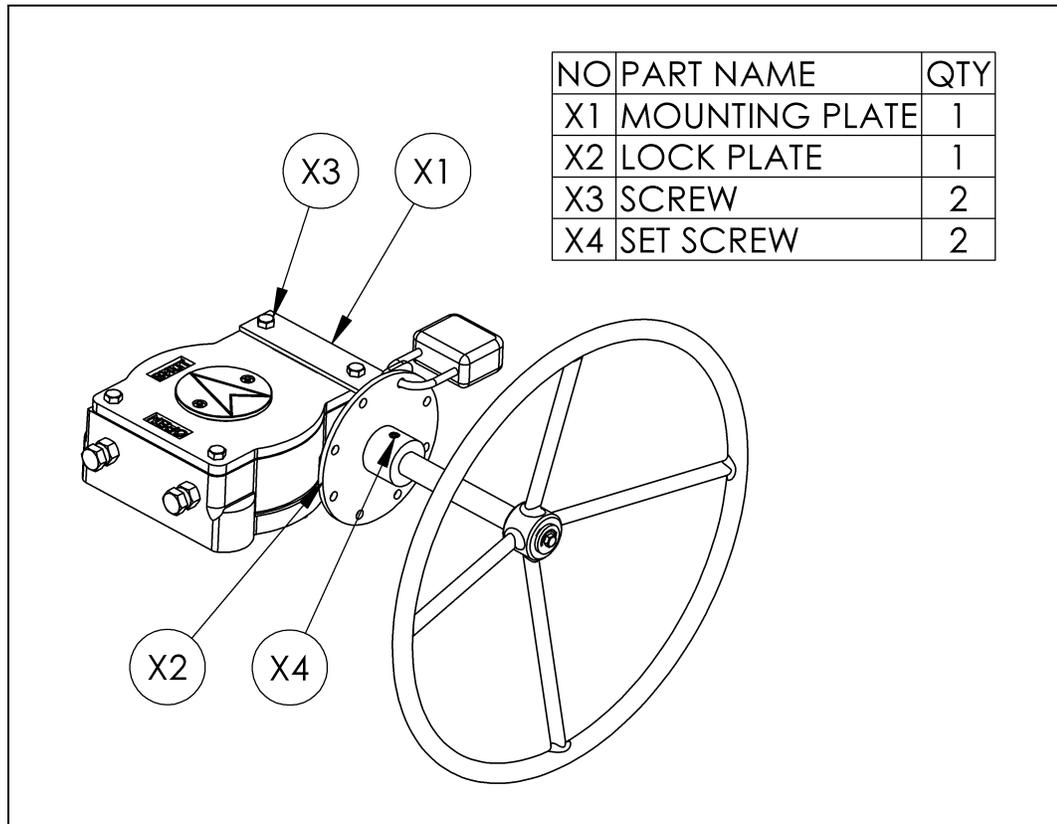

Figure 4 — Lockout Parts
2. Attach the mounting plate (X1) with two screws (X3) to the actuator as shown in Figure 4.